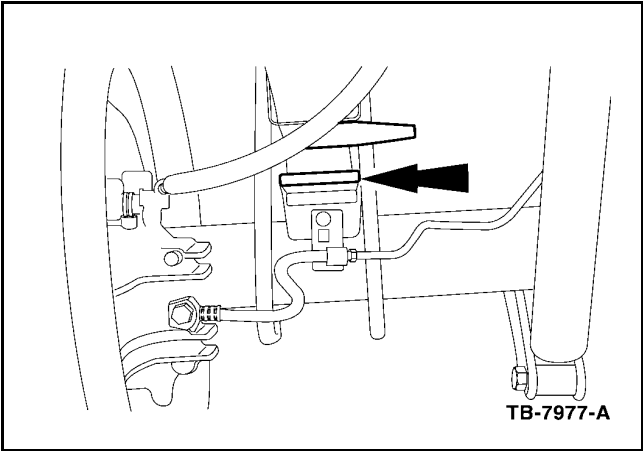

Figure 2 - Article 04-23-6
7. If shim installation is needed, install the shim as shown in Figures 2 and 3.